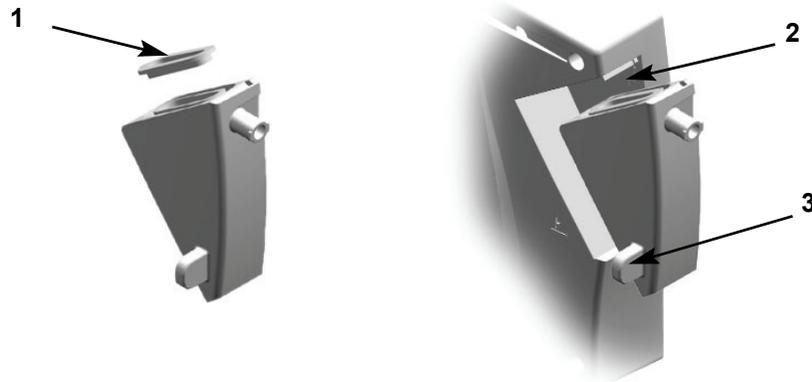

Figure 6: Replacing the Moisture Trap/Filter
1. Place the filter in the moisture trap as shown in figure 6 (1).
2. Slide the moisture trap into position (figure 6, 2) using the guide marks on the back of the monitor.
3. Press the moisture trap into position using the tab (figure 6, 3).